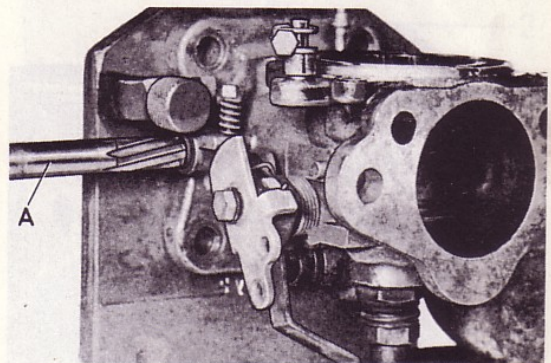

Fig. 20. Reaming the bush seat
2. Place fixture 2603 in a vice and clamp the carburettor in the fixture with hooks as shown in Fig. 20. For work on SU carburetors, use the larger stud on the fixture. Ensure that the hole in the stud aligns with the throttle spindle hole.
3. Ream the hole for the throttle spindle in the housing with reamer SVO 2400, Fig. 20. Do not pull the reamer backwards out of the hole, but instead loosen the support and push the reamer through the hole in the bottom plate in the same direction as reaming was carried out. If reaming is carried out in an upright drilling machine, then the lowest speed must be used and the reaming tool must be fastened in the